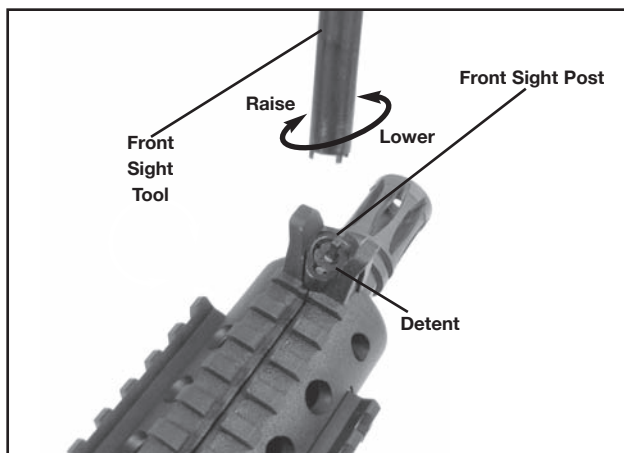

Fig. 19
**ELEVATION ADJUSTMENT:** To raise the point of impact, lower the front sight post by turning it clockwise. To lower the point of impact, raise the front sight post by turning it counter-clockwise. In order to turn the front sight post, the detent must first be depressed (Fig. 19). This can be accomplished by use of an AR front sight adjustment tool, or alternatively by holding down the detent with a small punch or other similar object.